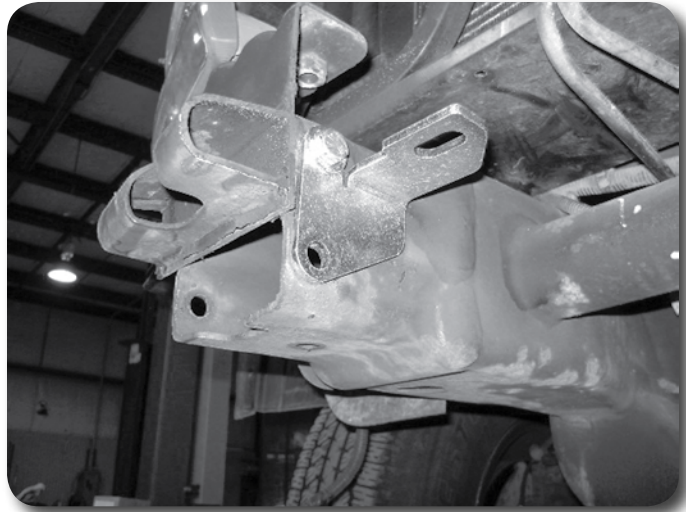
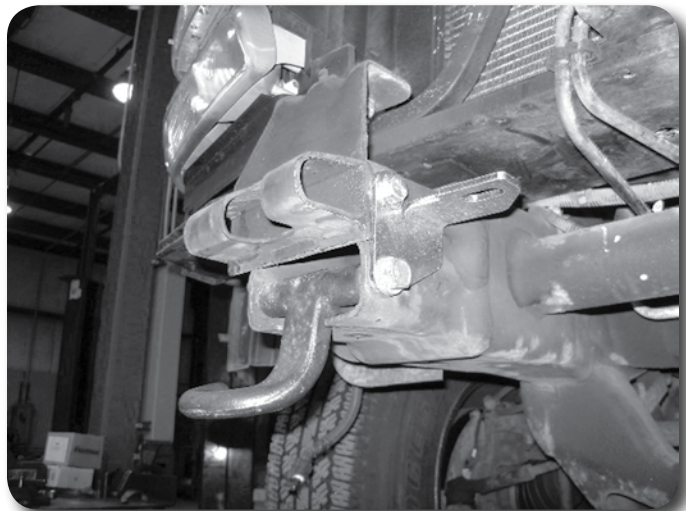

Figure 22A
Figure 22B
47. Attach the new brackets to the frame with the provided 7/16" x 1-1/4" bolts, nuts and washers. Align the lower hole to the existing frame hole and torque upper hardware to 45 ft-lbs. **Figure 22A** Reinstall the tow hooks on the correct side and fasten through the frame and new bracket with the original hardware. **Figure 22B** Torque tow hook bolts to 55 ft-lbs.